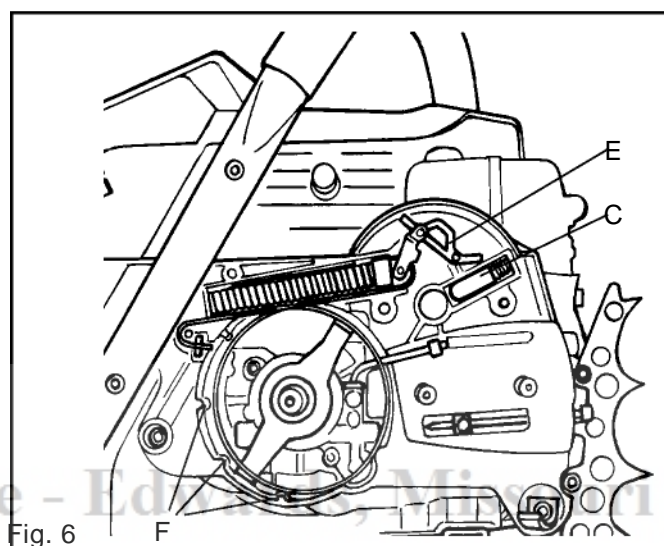

Fig. 6
2. Grease the toggle joint (E) moving parts and locate the assembly in the chainsaw. See fig. 6.
9. Check that the brake-strap is seated correctly in the recess (F) in the crankcase. See fig. 6.